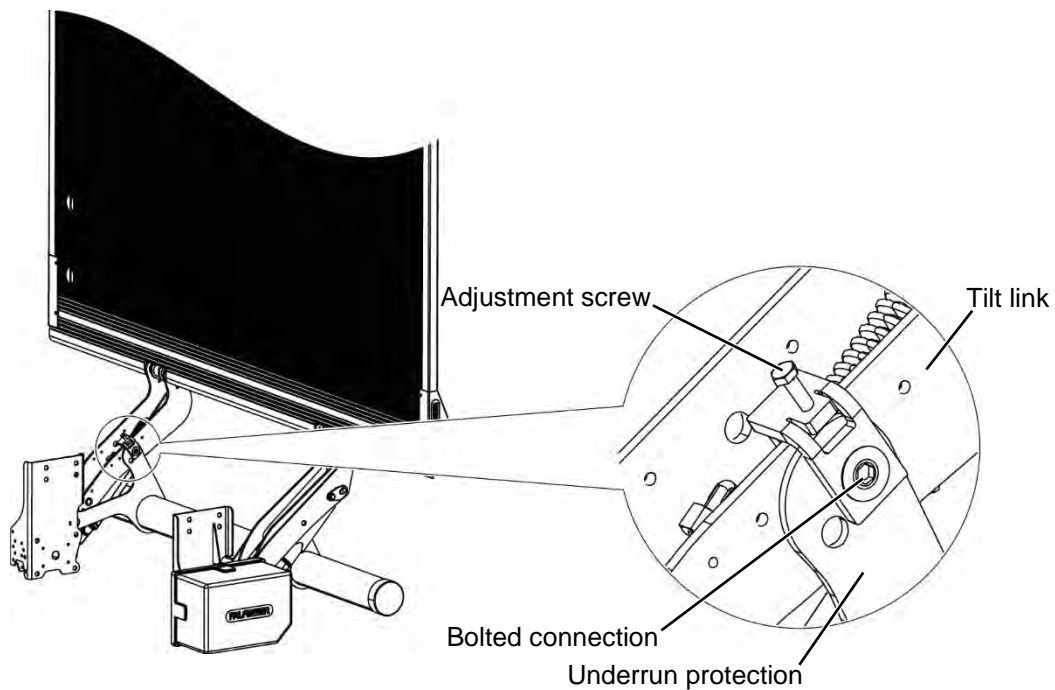

Figure 48: Tilt link, PTC 750
- Position the platform parallel to the end stop using the adjusting screw on the tilt link (see Figure 48).